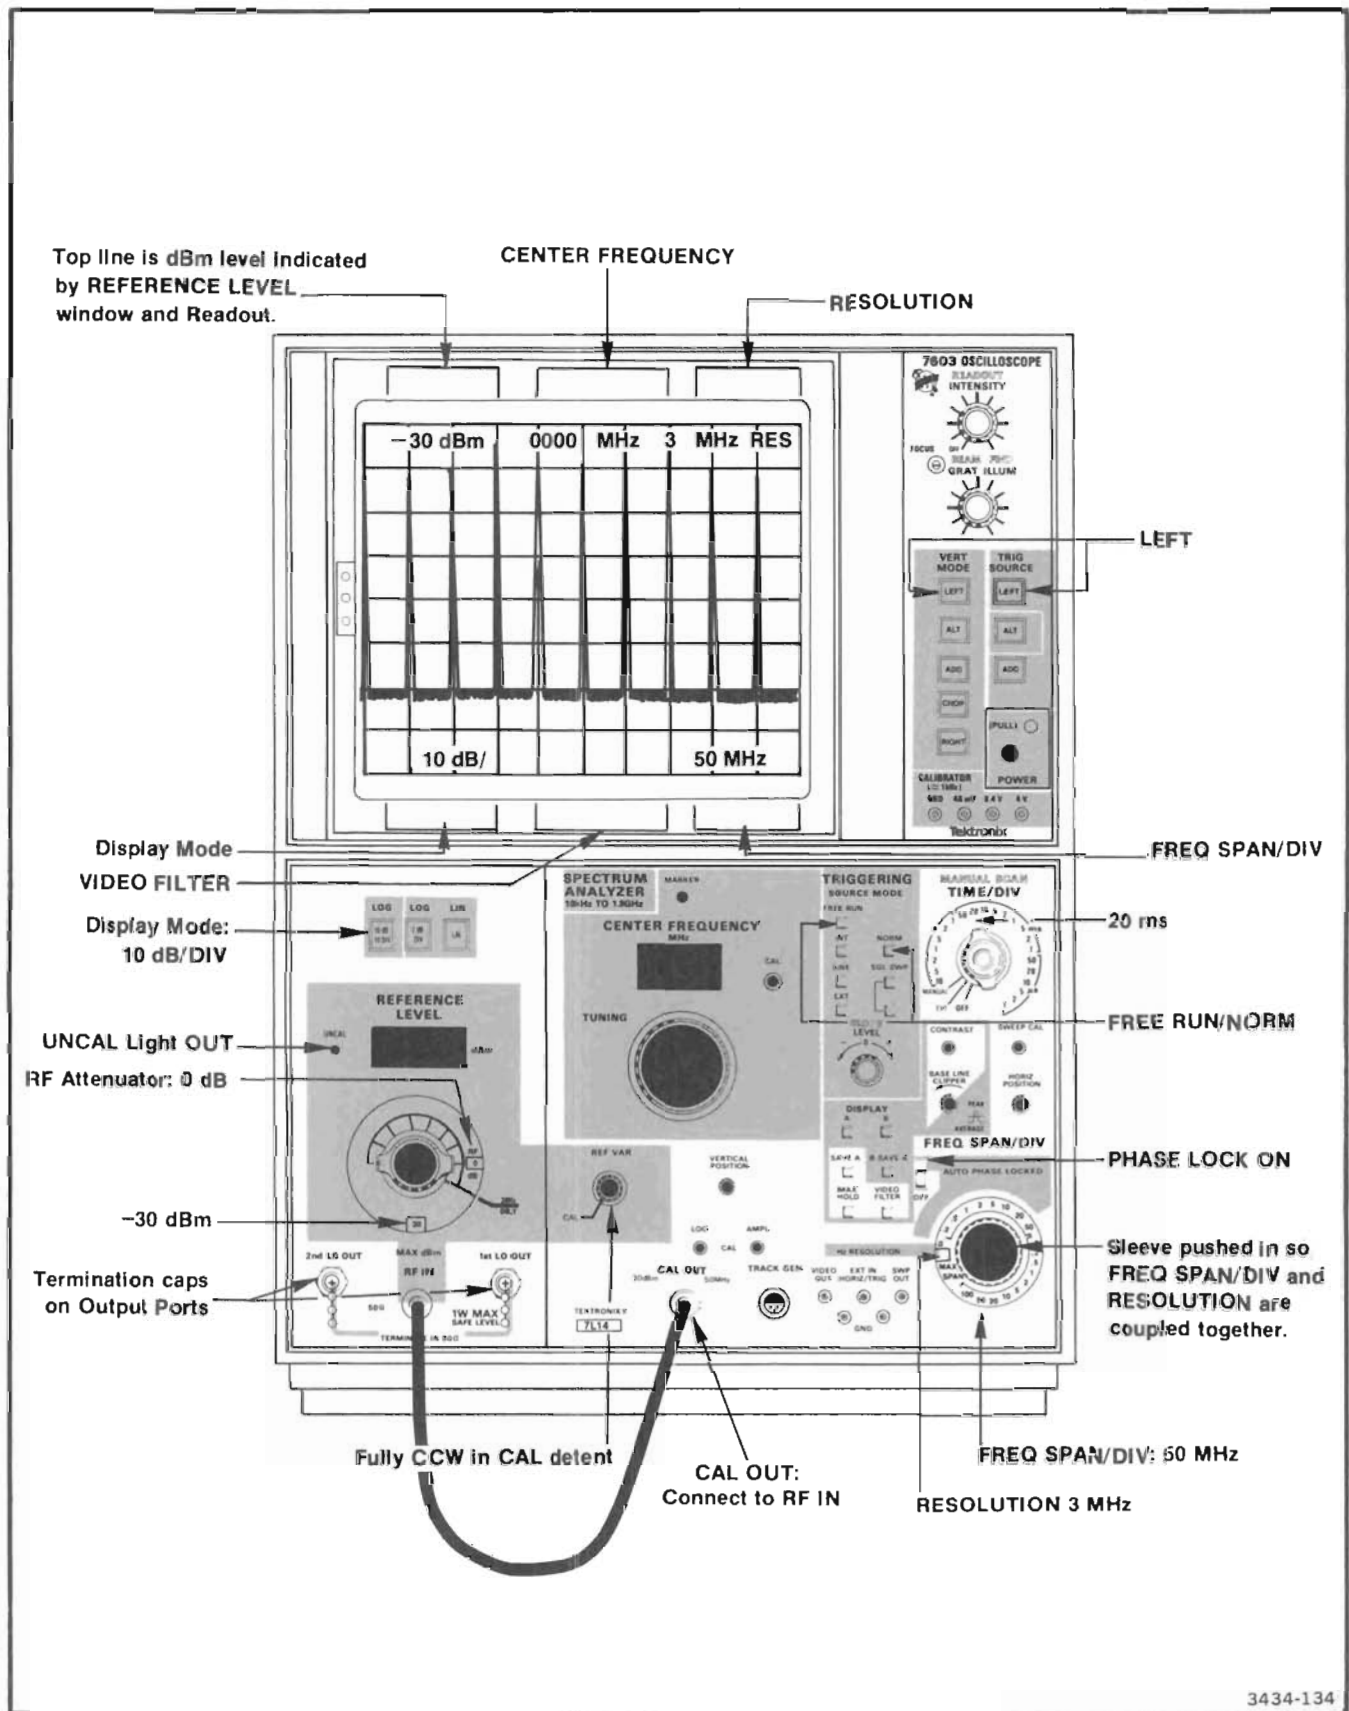

Fig. 2-2. Front-panel selector positions for front-panel calibration.
c. Set the front-panel controls as illustrated in Fig. 2-2 and connect the CAL OUT signal through a short coaxial cable to the RF INPUT.
f. Depress the 10 dB/DIV display button. The display should now resemble that shown in Fig. 2-2.